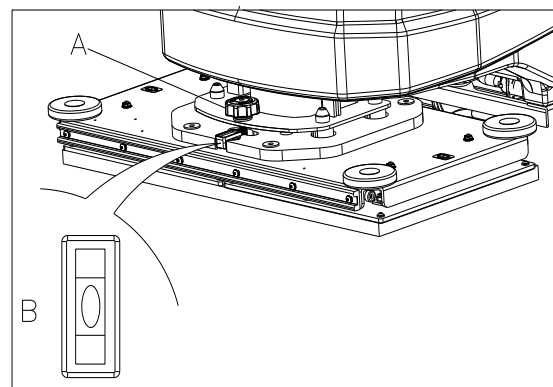

Figure 14
2. Adjust the level of orbital deck by adjusting handle (A, Figure 14) so that the bubble is in the center (B Figure 14).